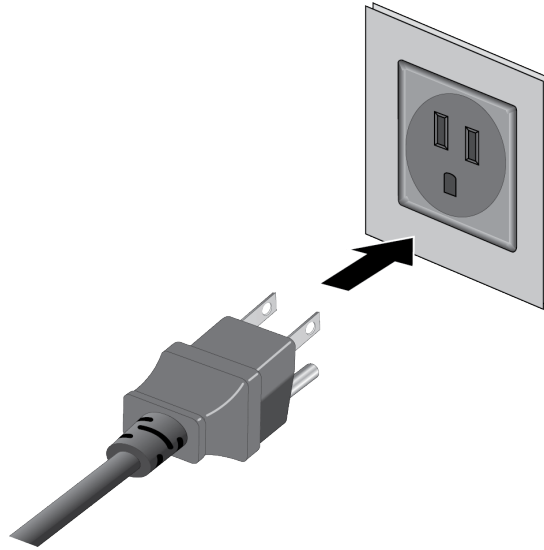

Figure 33. Connecting the Power Cords to an AC Power Source
4. Connect the power cords to an appropriate AC power source. Refer to Figure 33 on page 80.